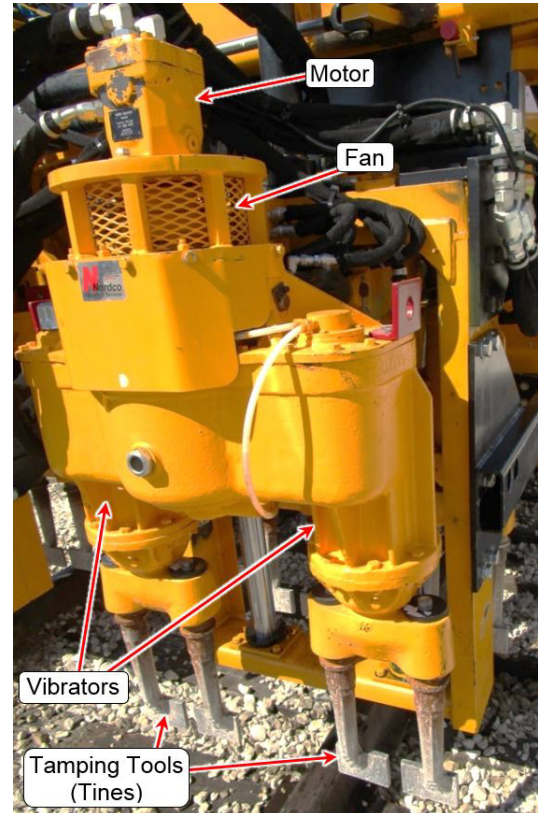

Figure 5-3: Vibrators Workhead
There are four (4) workheads on this machine. Each workhead consists of a vibrator unit with four (4) tools attached. There are a total of 16 tools on this machine. See Figure 5-3. Each side of the machine has a front and rear workhead that operates in sync with each other. The operator can select whether to run just the left or right sets or both at the same time.